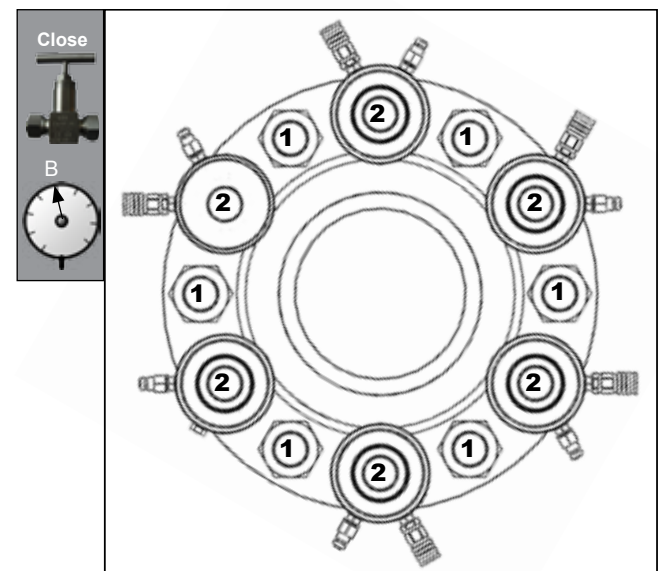

Fig 7.6
12. Reposition the tensioners on to the remaining 50% of bolts, bolts marked "2" (Fig 7.6)